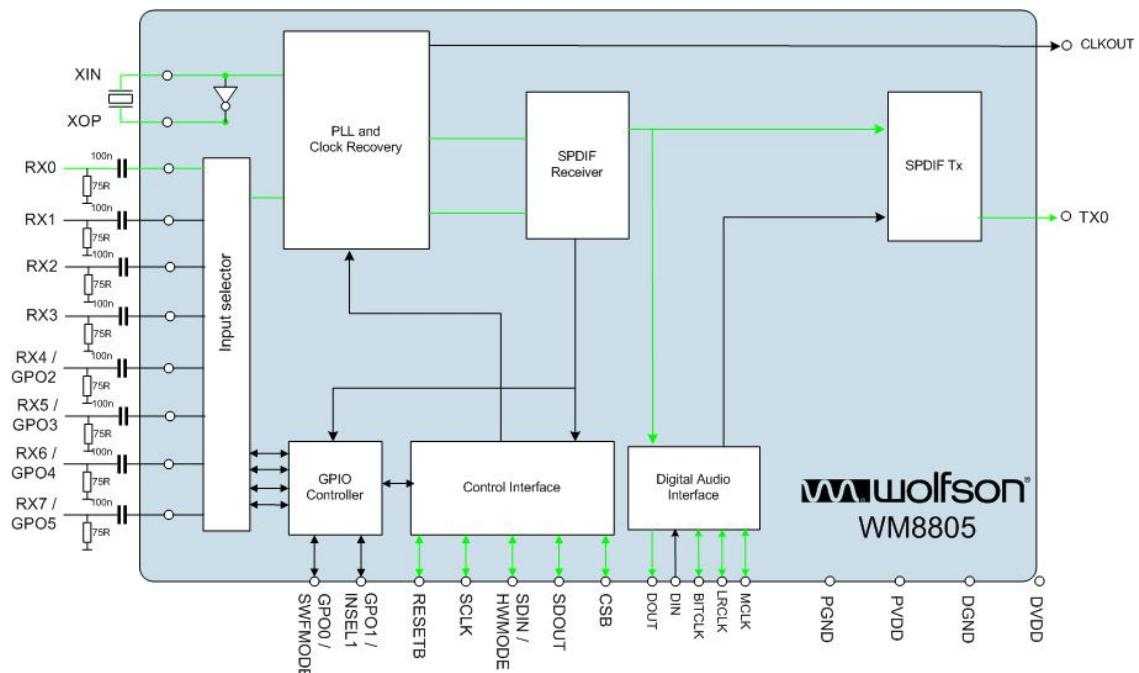

Figure 3 S/PDIF RX0 Input to S/PDIFTX0 Output Block Diagram
- Figure 3 illustrates the data path.